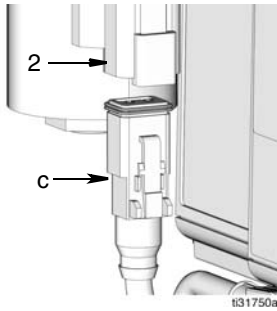

FIG. 2
2. Disconnect power cable (c) from pump cartridge solenoid (2) (FIG. 2).